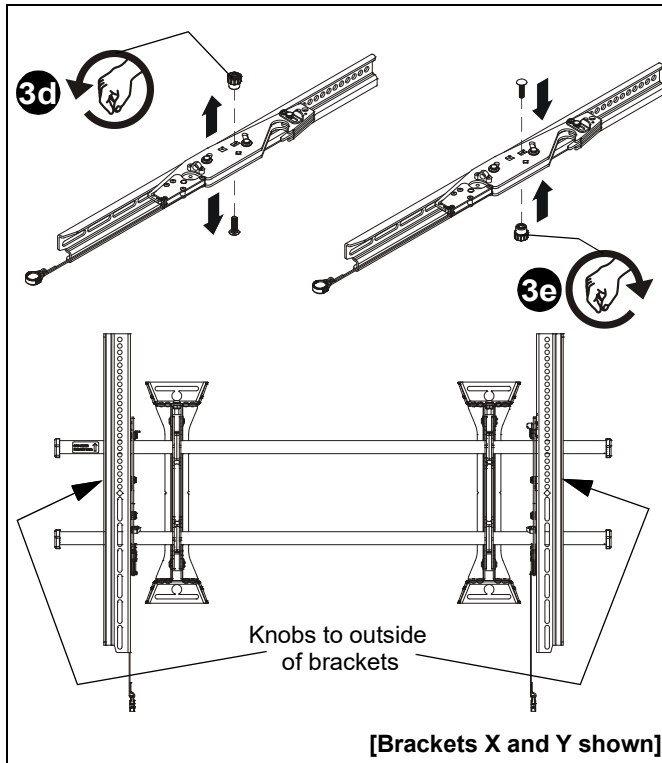

Figure 13
3. If necessary, the tilt interface bracket knobs may be switched to allow the interface brackets (X and Y) to be reversed. (See Figure 13)
2. Adjust length of pull knob so it is not visible below screen. (See Figure 13)